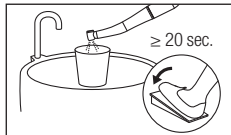

Fig. 18
- ④ Operate the handpiece at the chair-side for at least 20 seconds to purge fluids from the handpiece (Fig. 18). After the handpiece rotation has completely stopped, touch the handpiece head to confirm the head is NOT heating abnormally.